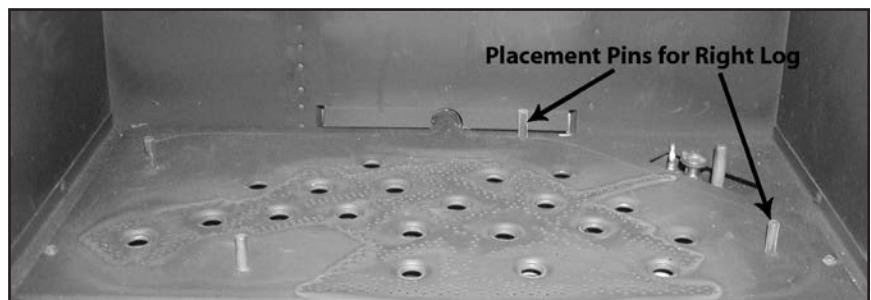

Figure 52: Step 1 of Log Placement.
2. Place the fan assembly behind the unit and secure with the three screws provided, (as shown in Figure 52).